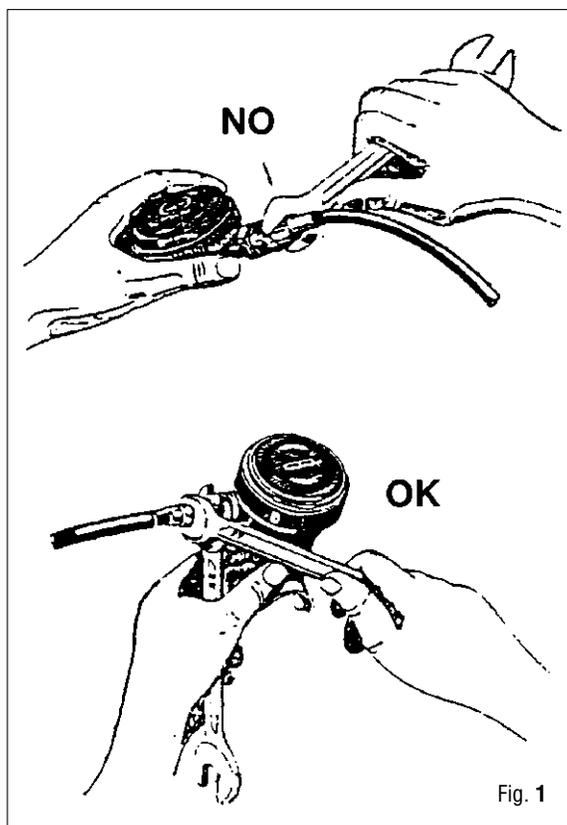
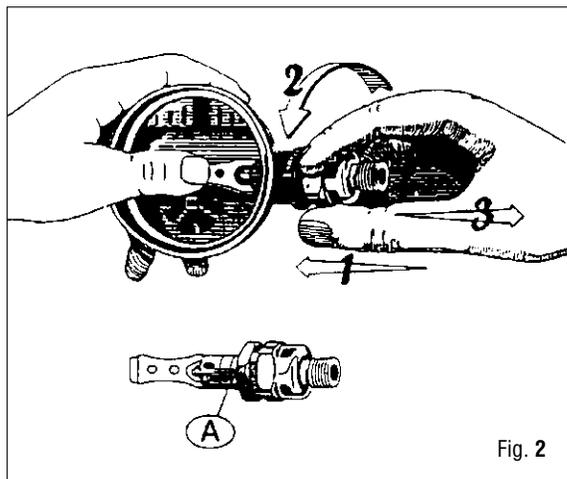

Fig. 1
Fig. 2
1. Remove mouthpiece clamp (43) by cutting it with an appropriate tool.
2. Remove mouthpiece (44).
3. Remove exhaust tee (41) from second stage case.
4. Using two wrenches (B17 and B19) remove hose (26) from second stage (Fig. 1).
5. Pull hose connector lock (77) off hose connector (55).
6. Remove hose connector (55) from the connector case (67) using two wrenches (B19).
7. Remove seat connector (28).
8. Remove O-rings (71) from seat connector (28).
9. Depress the second stage safety catch (63) towards the exhaust tee (41) while unscrewing the purge cover bezel (60).
10. Remove the bezel (60). (only Beta Version).
11. Remove purge cover (39).
12. Remove friction disk (78). (72 for MR10).
13. Lift safety catch (63) out of second stage case.
14. Remove second stage diaphragm (36).
15. Remove snap ring (65), using snap ring pliers or a small screw driver.
16. Depress and hold the demand lever (35) in the down position. (Fig. 2).
17. Push the connector case inward (towards the second stage case) until the locking tabs are disengaged from the second stage case ears (Fig. 2).
18. Keeping the demand lever depressed, rotate the connector case 90 degrees counter clockwise (Fig. 2).
19. Pull the connector case out of the second stage (Fig. 2-A).